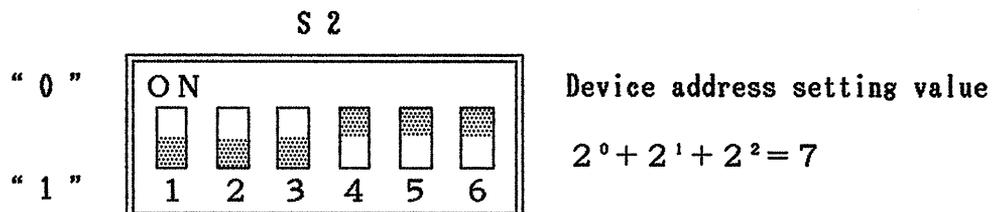

Figure 8-1
- ① Table 8-1 lists the values of S2 and corresponding addresses.
- ② When a switch of S2 is set to ON, the corresponding bit is set to the level of "0".
- ③ Figure 8-1 shows how S2 is set for address "07".